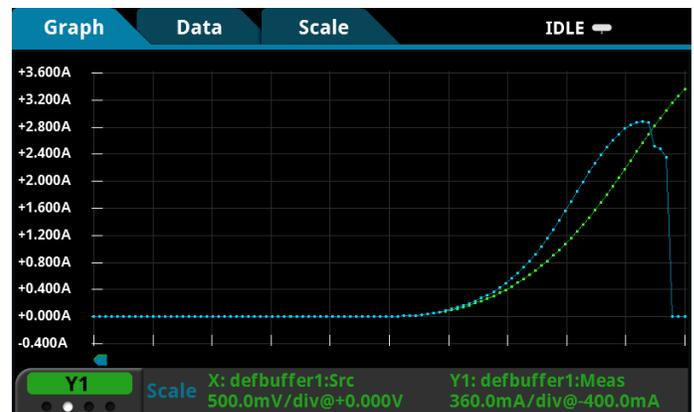

FIGURE 2. Two I-V sweeps run on the same HBLED. The green curve is a pulse I-V sweep. The blue curve is a traditional I-V sweep that led to overheating and
**Figure 2** demonstrates two HBLED I-V sweeps performed with the 2461. The green curve shows the sweep performed using its built-in pulsing capabilities. The blue curve shows the same sweep performed using a traditional sweep without pulsing. The green pulsed curve exhibits no self-heating effects, but the blue curve exhibits self-heating and catastrophic failure. The device under test would have been untestable without the use of pulsing.